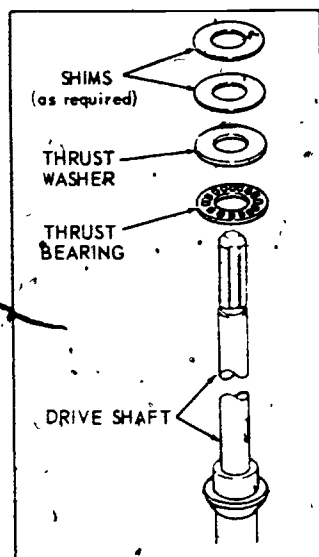

FIGURE 3
- J. Install thrust bearing, thrust washers, and shims (Figure 3)